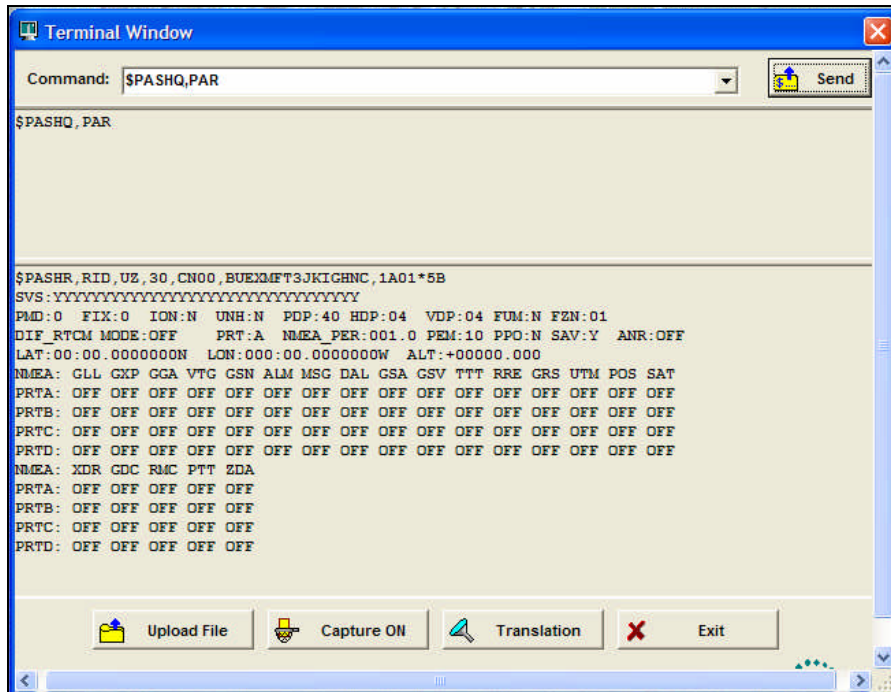

Figure 7. Review the PAR command output
12. Issue the query command \$PASHQ,PAR <Enter> via port A as in Figure 7.